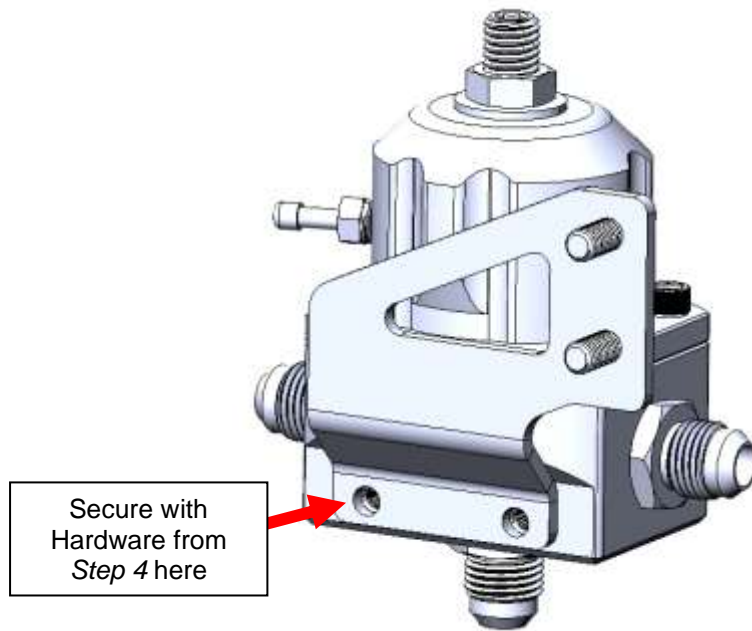

Figure 36
5. Attach the larger piece of the other provided bracket onto the rear of the Regulator with the bolts removed in the previous step. The orientation the bracket should be bolted on in is shown below. *Figure 36.*